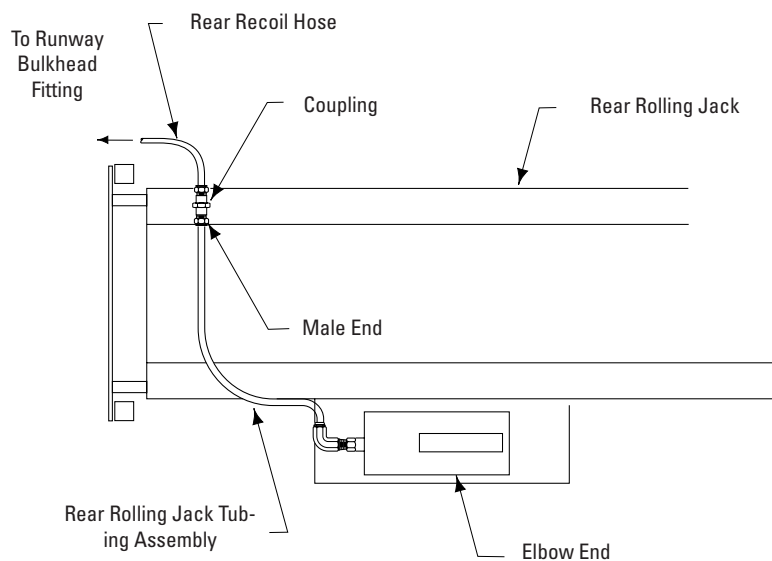

Fig. 31 **REAR ROLLING JACK TO RECOIL AIR HOSE**
- C. Connect one end of provided rear recoil hose to bulkhead T-fitting at midpoint of runway. Connect other end of recoil hose to coupling welded on rolling jack, Fig. 31 and 33.
- D. Connect elbow end of rolling jack tubing assembly to air pump and male end to the coupling, Fig. 31 and 33.